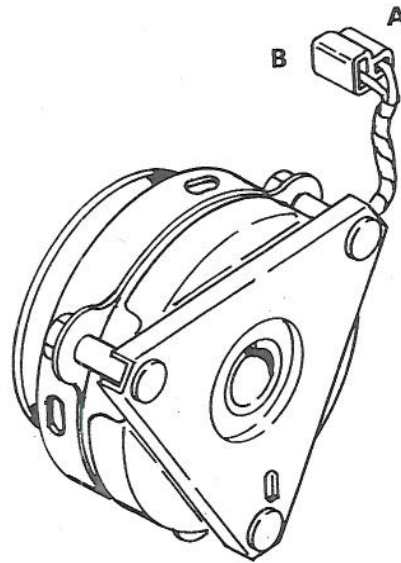

FIGURE 1
4. Connect meter lead wires to A and B terminals in the clutch connector (See Figure 1).
4. Connect meter lead wires to the wires in the clutch connector (See Figure 1).